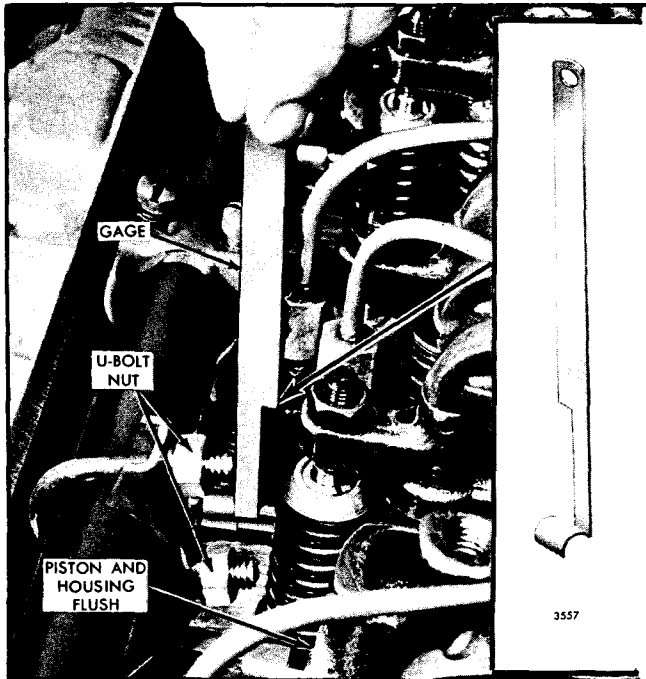

Fig. 4 - Adjusting Throttle Delay Cylinder
1. Refer to Fig. 4 and insert gage J 23190 (.454" setting) between the injector body and the shoulder on the injector rack. Then exert a light pressure on the injector control tube in the direction of full fuel.